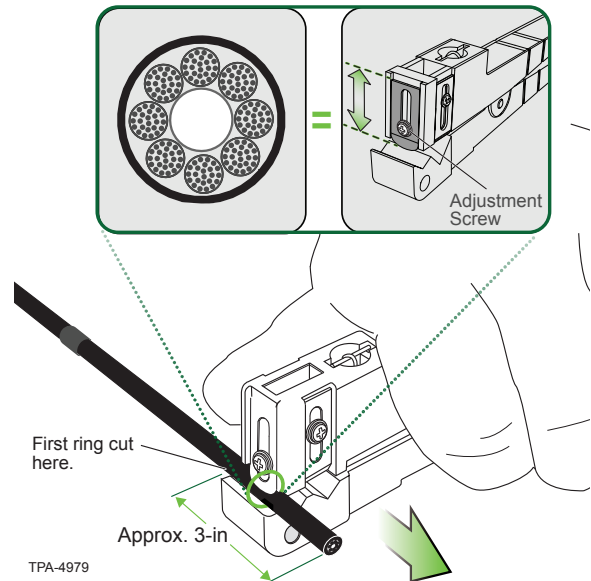

Figure 2
- Step 2:** Use the Ideal® tool 45-165 (for 144-, 192-, or 216-fiber cable) or Ideal tool 45-164 (for 288-fiber cable) to make a ring cut by rotating the tool around the cable jacket at the 3-in point (ensure that the tool's side blade is properly adjusted so it does not damage buffer tubes) (Figure 2).
- Step 3:** Using the rounded blade on the end of the Ideal tool, make a longitudinal cut from the first ring cut to the end of the cable (Figure 2).